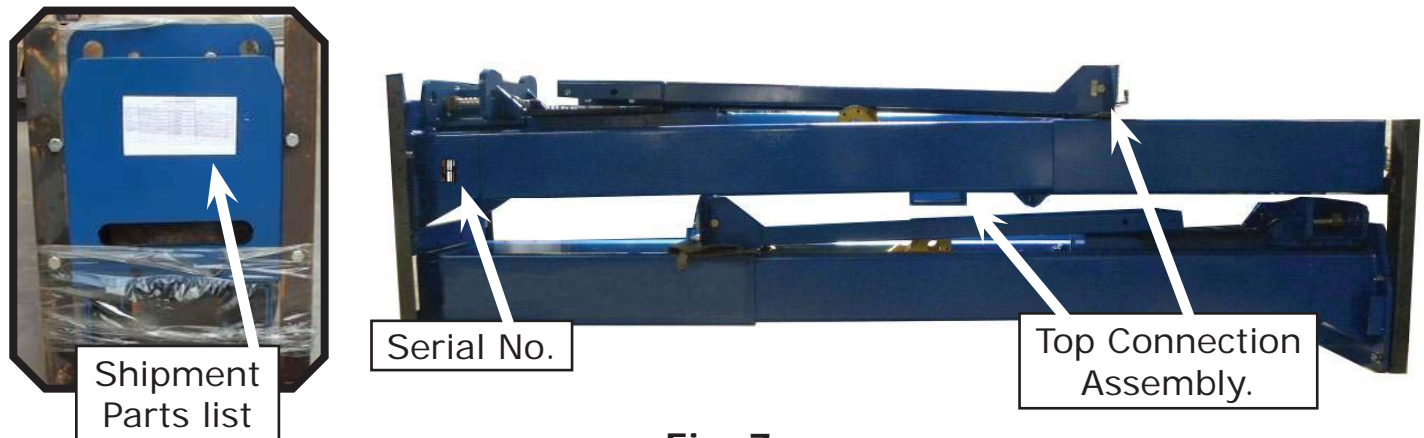

Fig. 7
2. Move the lift aside with a fork lift or hoist, and open the outer packing carefully (See Fig. 7).